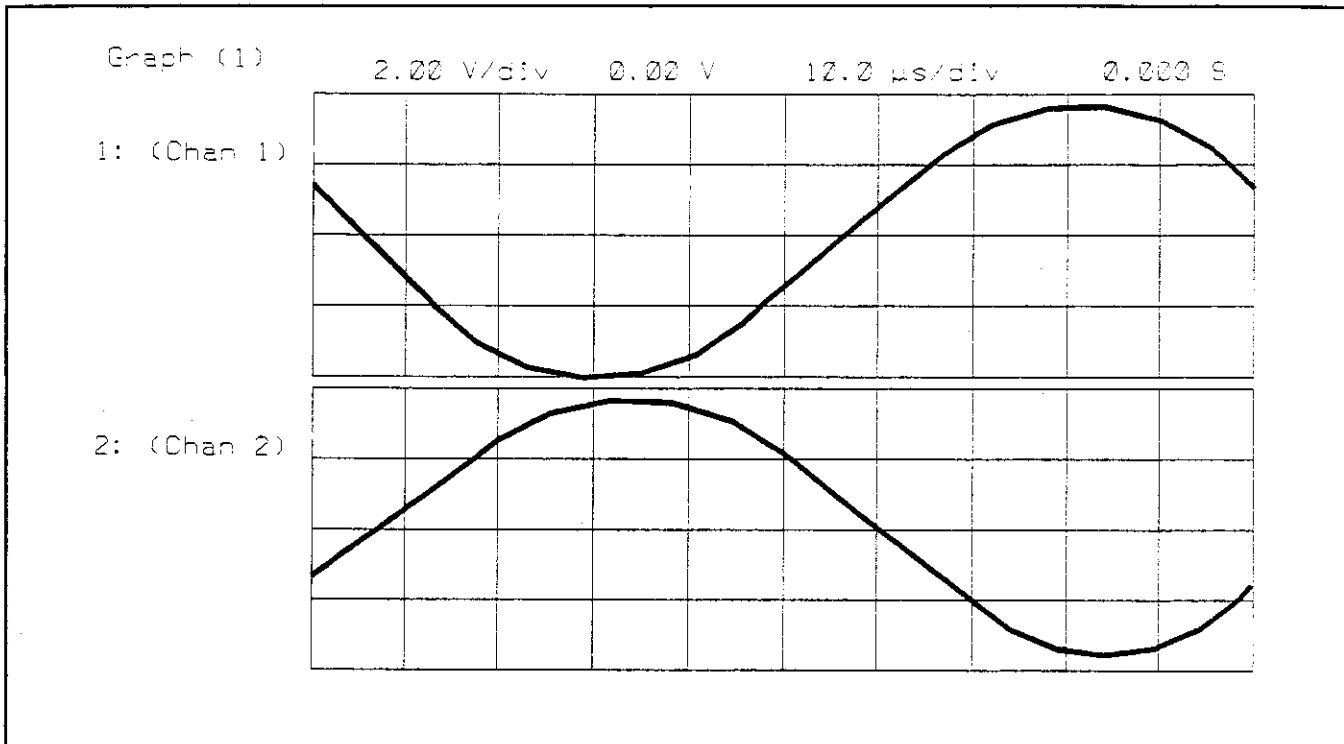

Figure 8-19. Adjusting Channel 1 Zero Crossing
8. Both channels should have a sine wave displayed as shown in figure 8-19. Adjust the trigger level so the zero crossing on channel 1 is approximately in the center of the division on the left edge of the display.